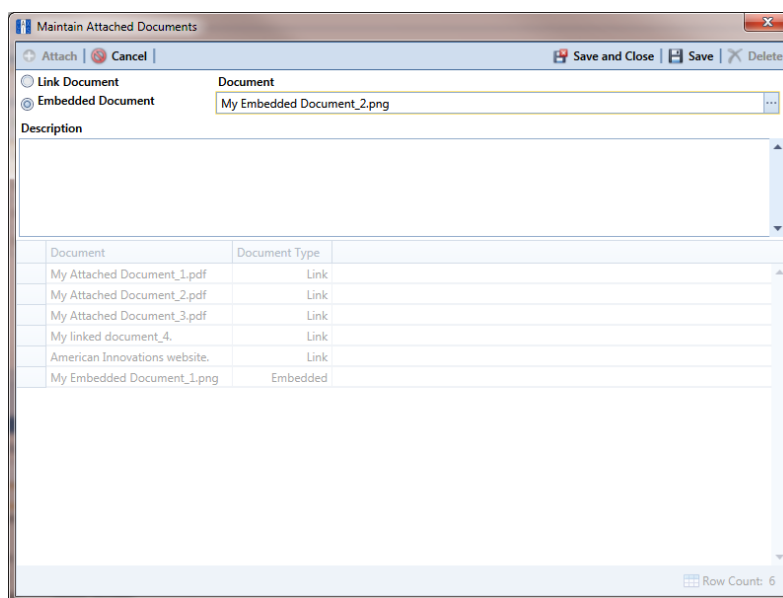

Figure 3-17. Embedded Document
- 9 If you selected *Embedded Document* in step 6, complete the following steps (Figure 3-17):